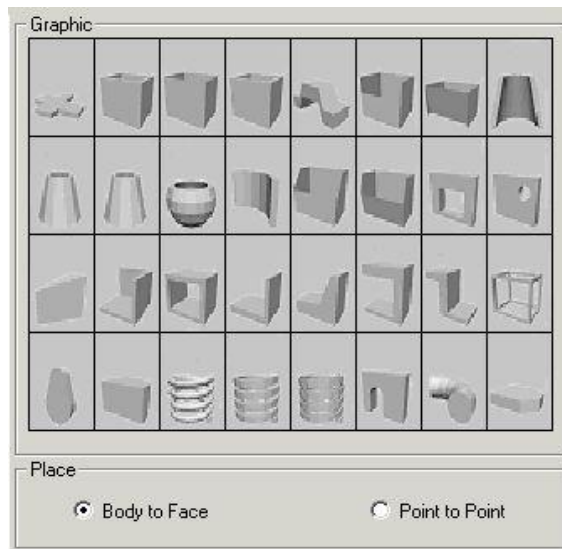

Figure 57: Example of a Graphic Display of Primitives
- 4) Use the insert tool to click the graphic to place the primitive at the point where you have placed the insert tool. You can use the insert tool as well to insert further primitives in the graphic. Please refer to the Figure 57.